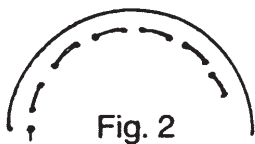

Fig. 2
2. Lay out the cover on the ground. Thread the cable through the grommets (or loops). The cable must remain on the outside of the cover, except between the pairs of grommets (See Figure 2).